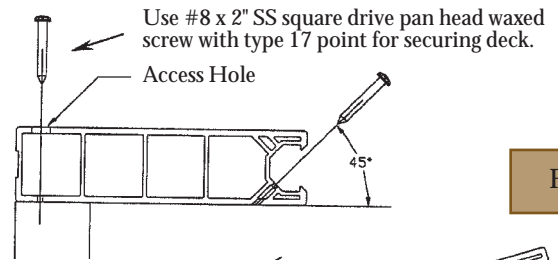

Fig. 2
Step 2 Cut deck plank to desired length. Drill an access hole through the top surface only. (Starter plank only.) Screw the bottom to the joist through the access hole. (Fig. 2) **Be sure to start this plank straight! Do not over tighten screws. Set torque on screw gun properly. Use with clutch-type screw gun!**